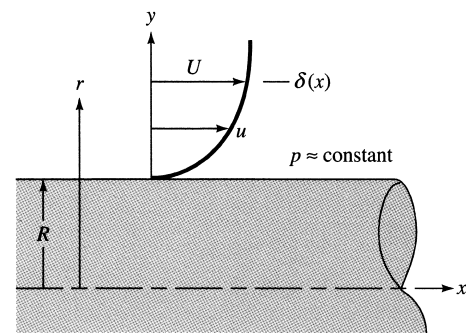

Fig. P7.13
**7.13** Derive modified forms of the laminar boundary-layer equations for flow along the outside of a circular cylinder of constant  $R$ , as in Fig. P7.13. Consider the two cases (a)  $\delta \ll R$ ; and (b)  $\delta \approx R$ . What are the boundary conditions?
**Solution:** The Navier-Stokes equations for cylindrical coordinates are given in Appendix D, with “ $x$ ” in the Fig. P7.13 denoting the axial coordinate “ $z$ .” Assume “axisymmetric” flow, that is,  $v_\theta = 0$  and  $\partial/\partial\theta = 0$  everywhere. The boundary layer assumptions are: